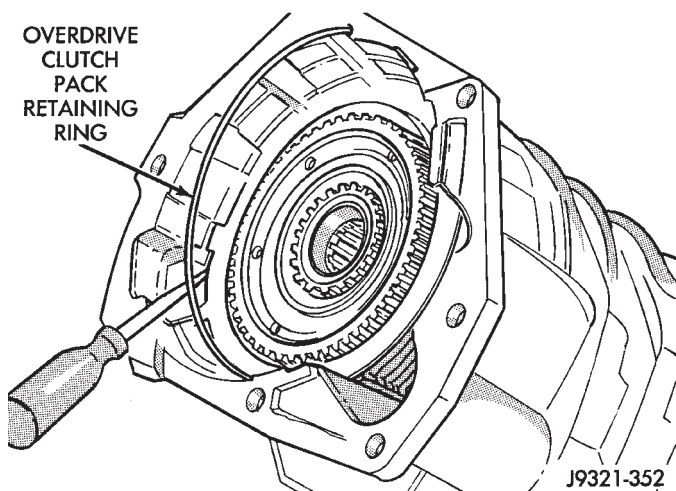

Fig. 66 Installing Overdrive Clutch Pack Retaining Ring
(6) Verify clutch pack. 4 clutch discs, 3 steel plates, 1 reaction plate and 1 pressure plate are required.
(7) Install clutch pack pressure plate. Note that pressure plate is thickest plate in clutch pack.
(8) Install clutch pack wire-type retaining ring (Fig. 66).